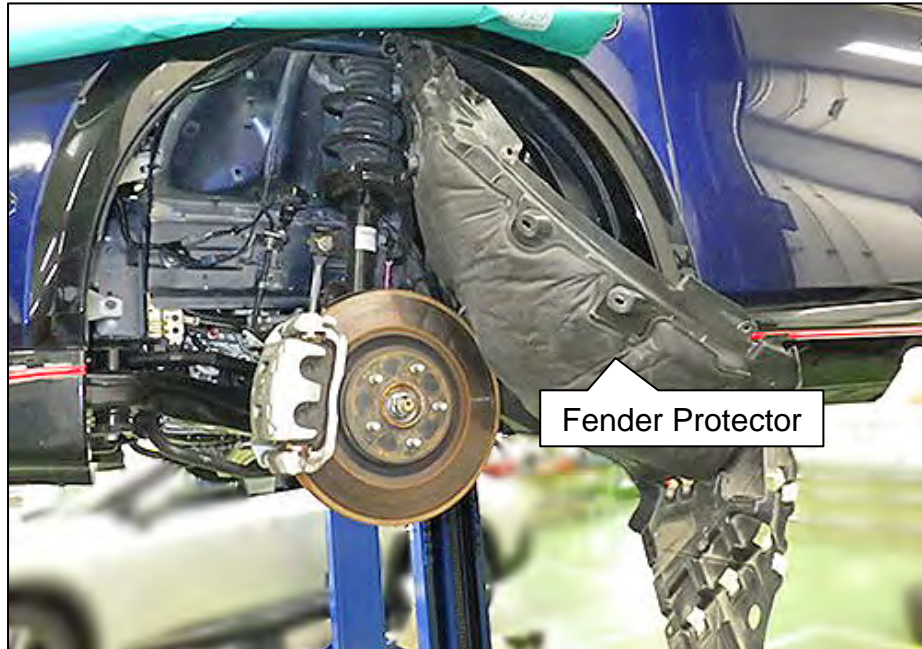

Figure 28
- Secure the Fender Protector out of the way with an appropriate retention device as shown in Figure 28 on page 19.